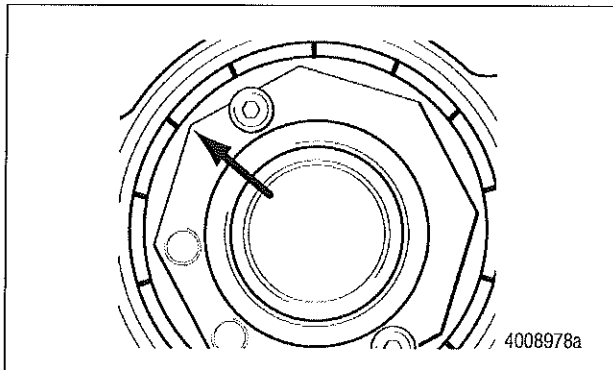

Figure 25
- G. Rotate the nut in a **CLOCKWISE** direction, in the 'tightening' direction, until the corners of the nut align with the **NEXT** nearest mark on the face of the retaining washer. Figure 25.